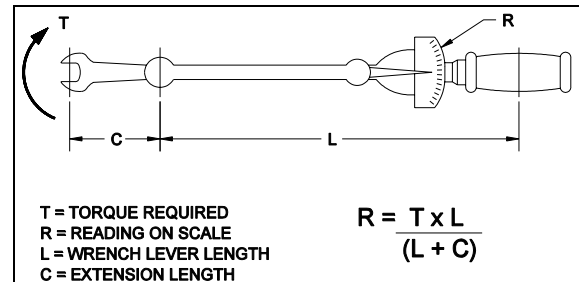

FIGURE 15 : TORQUE WRENCH FORMULA
**Make sure all keyless bushings are tightened to 125 lb-ft before moving the slide-out. A lower torque value may cause the bushing to slip on the shaft, and a higher torque value may break the bushing. The torque may need to be recalculated depending of the wrench size. Refer to figure 15 for wrench size compensation.**